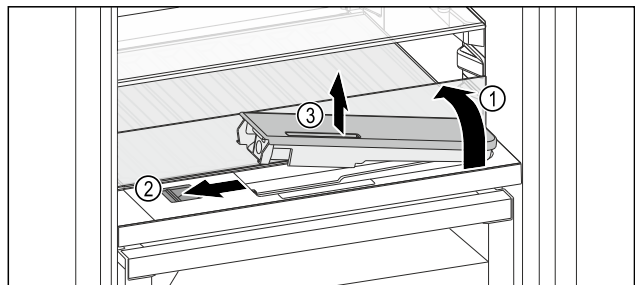

Fig. 188
- ▶ Lift the glass panel and fold towards the rear until it clicks into place Fig. 188 (1).
- ▶ Slide the slider Fig. 188 (2) to the left.
- ▶ Remove the water tank Fig. 188 (3).